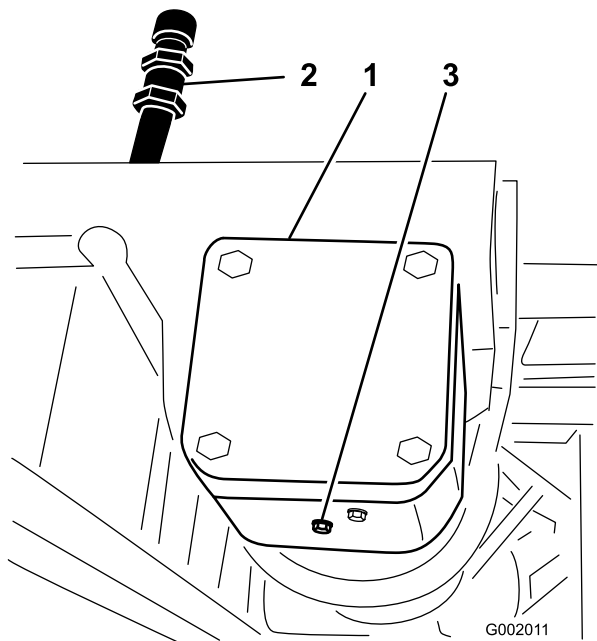

Figure 71
2. Place a pan under the drain plug on the pump drive gear box (Figure 71).
- Remove the fill plug and drain plug (Figure 71), allowing the oil to drain into the pan.